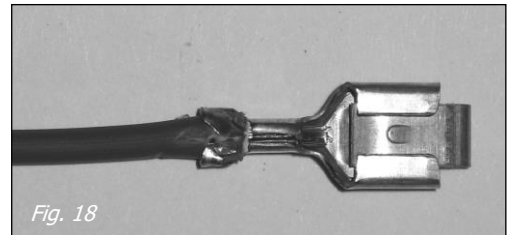
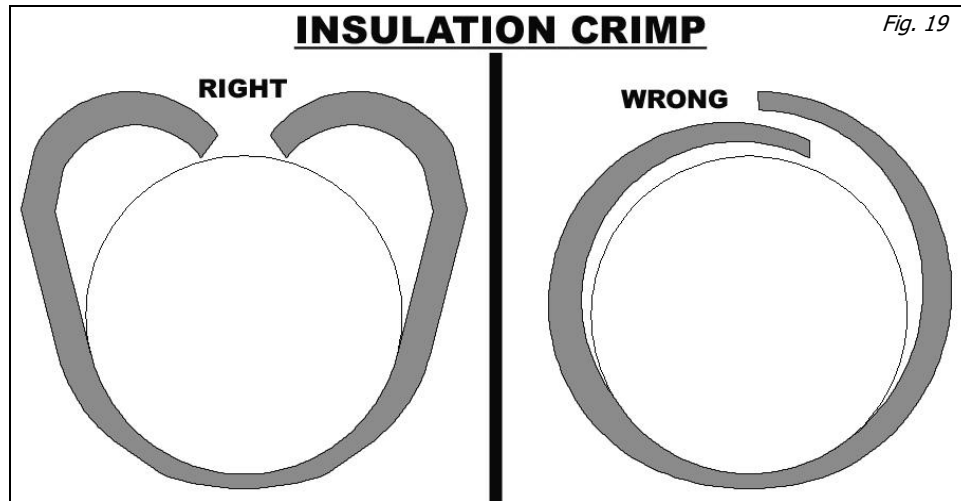

Fig. 18
Fig. 19
- With strap set 1 crimped, you can move onto crimping the insulation with strap set 2. Place strap set 2 into the appropriate jaw of the crimpers. This jaw will be larger than that used to crimp the first strap. Slowly crimp down on strap set 2; make sure the strap folds downward onto the wire insulation and does not overlap itself (see Fig. 18). Overlapping can cause problems with the terminal fitting into the intended connector (see Fig. 19).